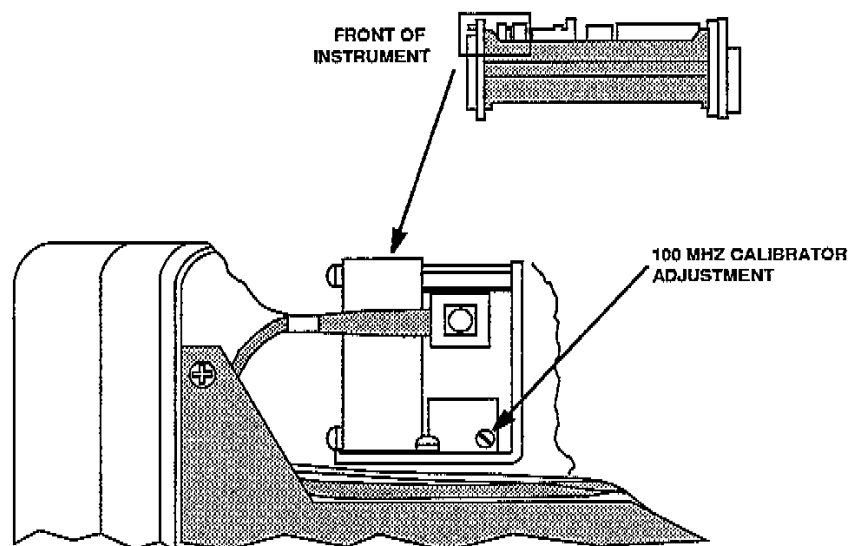

Figure 3-29. 100 MHz Amplitude Adjustment
10. Adjust the 100 MHz Amplitude adjustment on the 100 MHz Calibrator module (see Figure 3-29) for -20.00 dBm on the power meter.